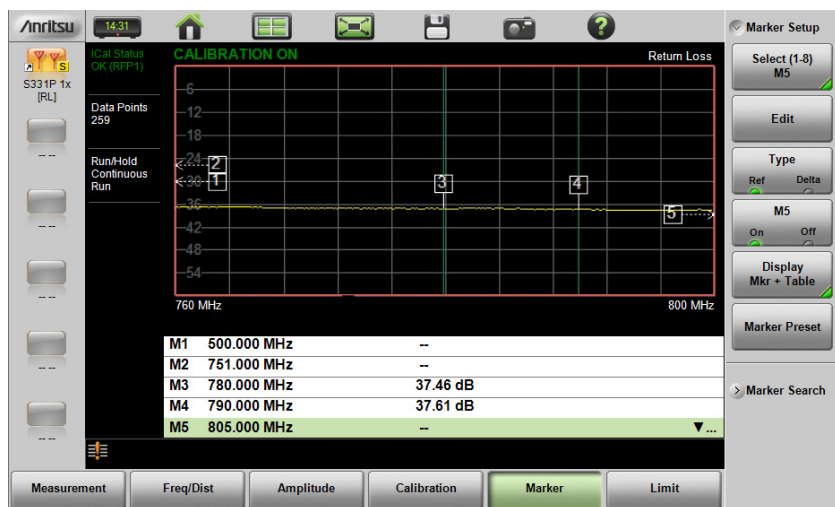

Figure 3-28. Markers 1, 2, and 5 are Out of Range
- If the frequency (F1 or F2) or distance (D1 and D2) parameters are moved inside a current marker location, the out-of-range (---> or <---) indicator is displayed and marker values in the table are blanked (--). See Figure 3-28 for an example of markers outside the current span.